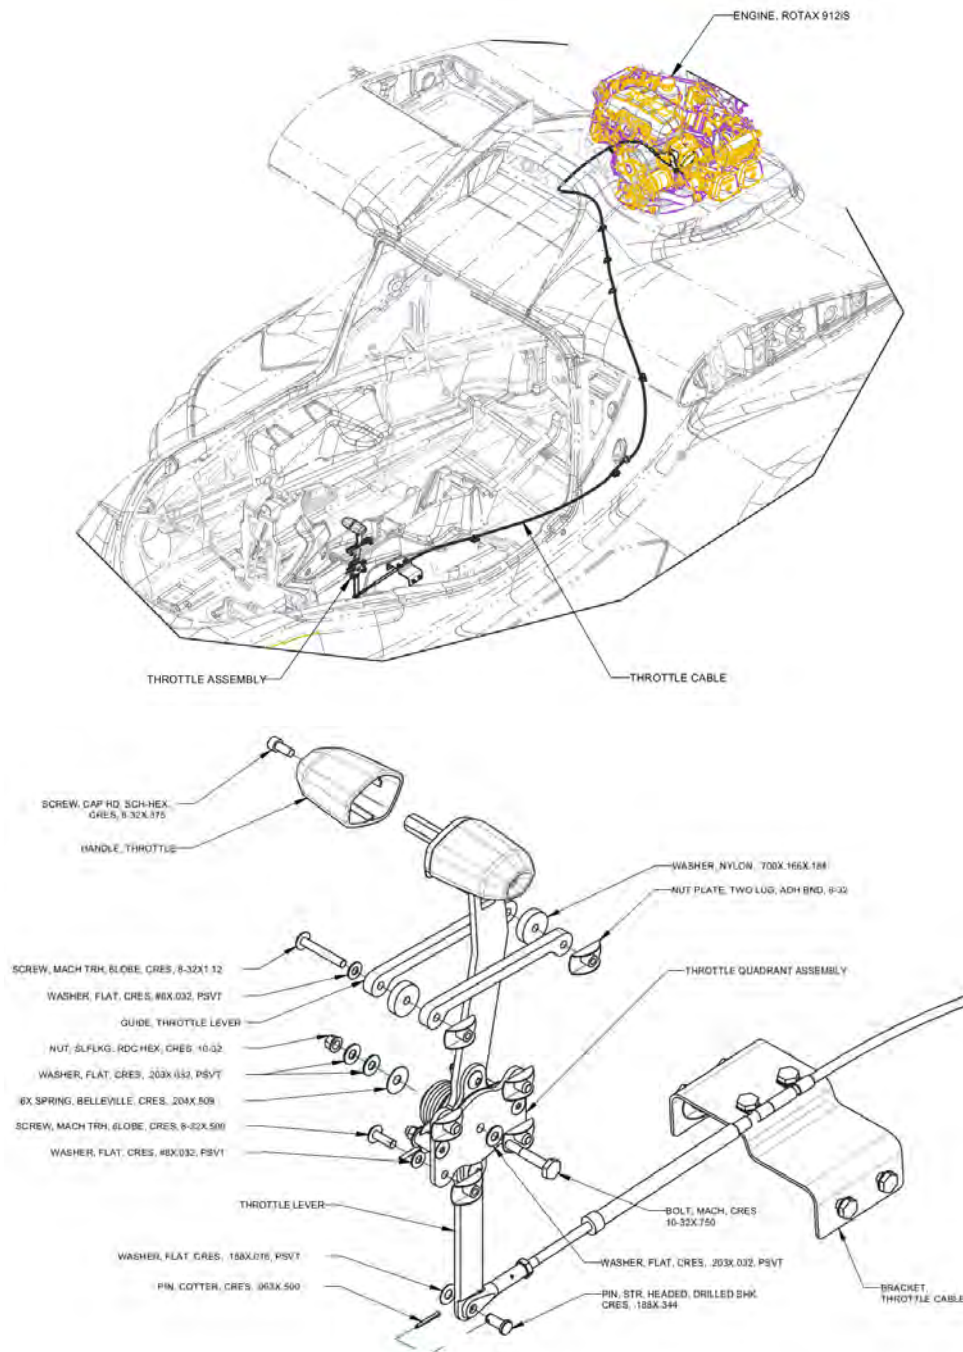
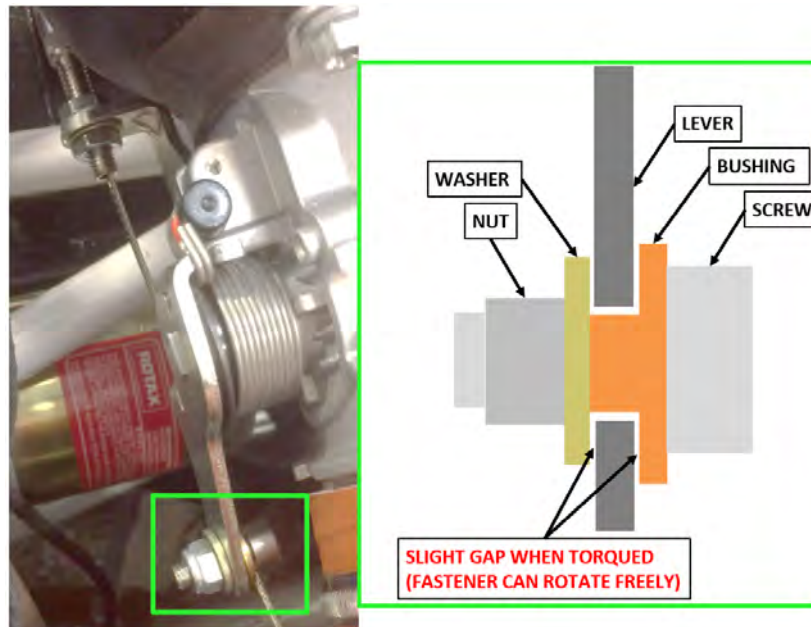

FIGURE 16-21
FIGURE 16-24
4. Check that the throttle cable is secured and connected appropriately to throttle lever. (See Figure 16-21. See Figure 16-24.)
8. Adjust position of cable in cable fixation fastener as required. (See Figure 16-24.)
10. Inspect for any loose bolts. (See Figure 16-21.)